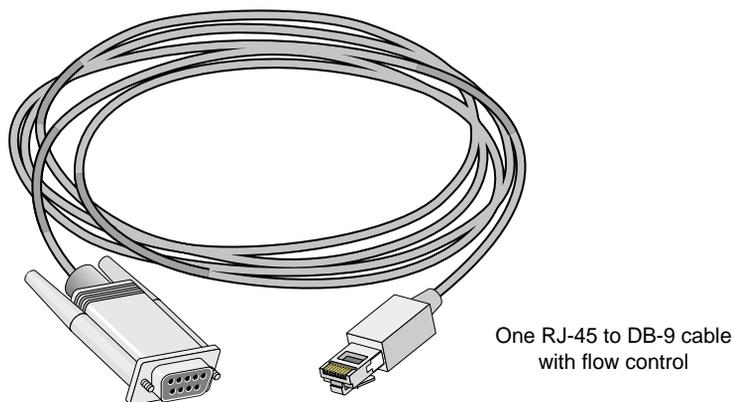

Figure 5-37 Items Needed to Connect an Unlisted System to an SGIconsole
5. Make sure that you have the following items (shown in Figure 5-37):